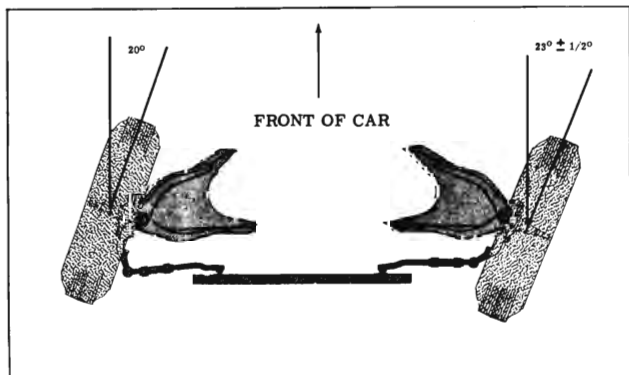

Fig. 5-118 Front Wheel Toe-Out
4. TOE-OUT (STEERING GEOMETRY) (Fig. 5-118)